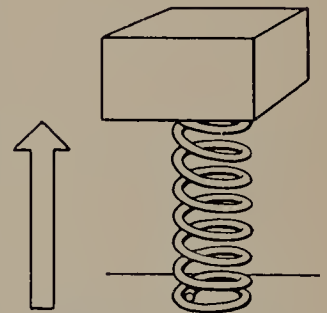

FIGURE 5.2 When the spring is released, it can do work on another body, lifting a weight against the force of gravity, for instance.
5.2 Energy. Energy is the ability, or capacity, to do work. When work is done on an object, energy is stored in that object. Lift a 20-lb weight 4 ft and you have stored up energy in the weight. The weight can do 80 ft-lb of work. If a spring is compressed, energy is stored in it, and it can do work (Fig. 5.2).